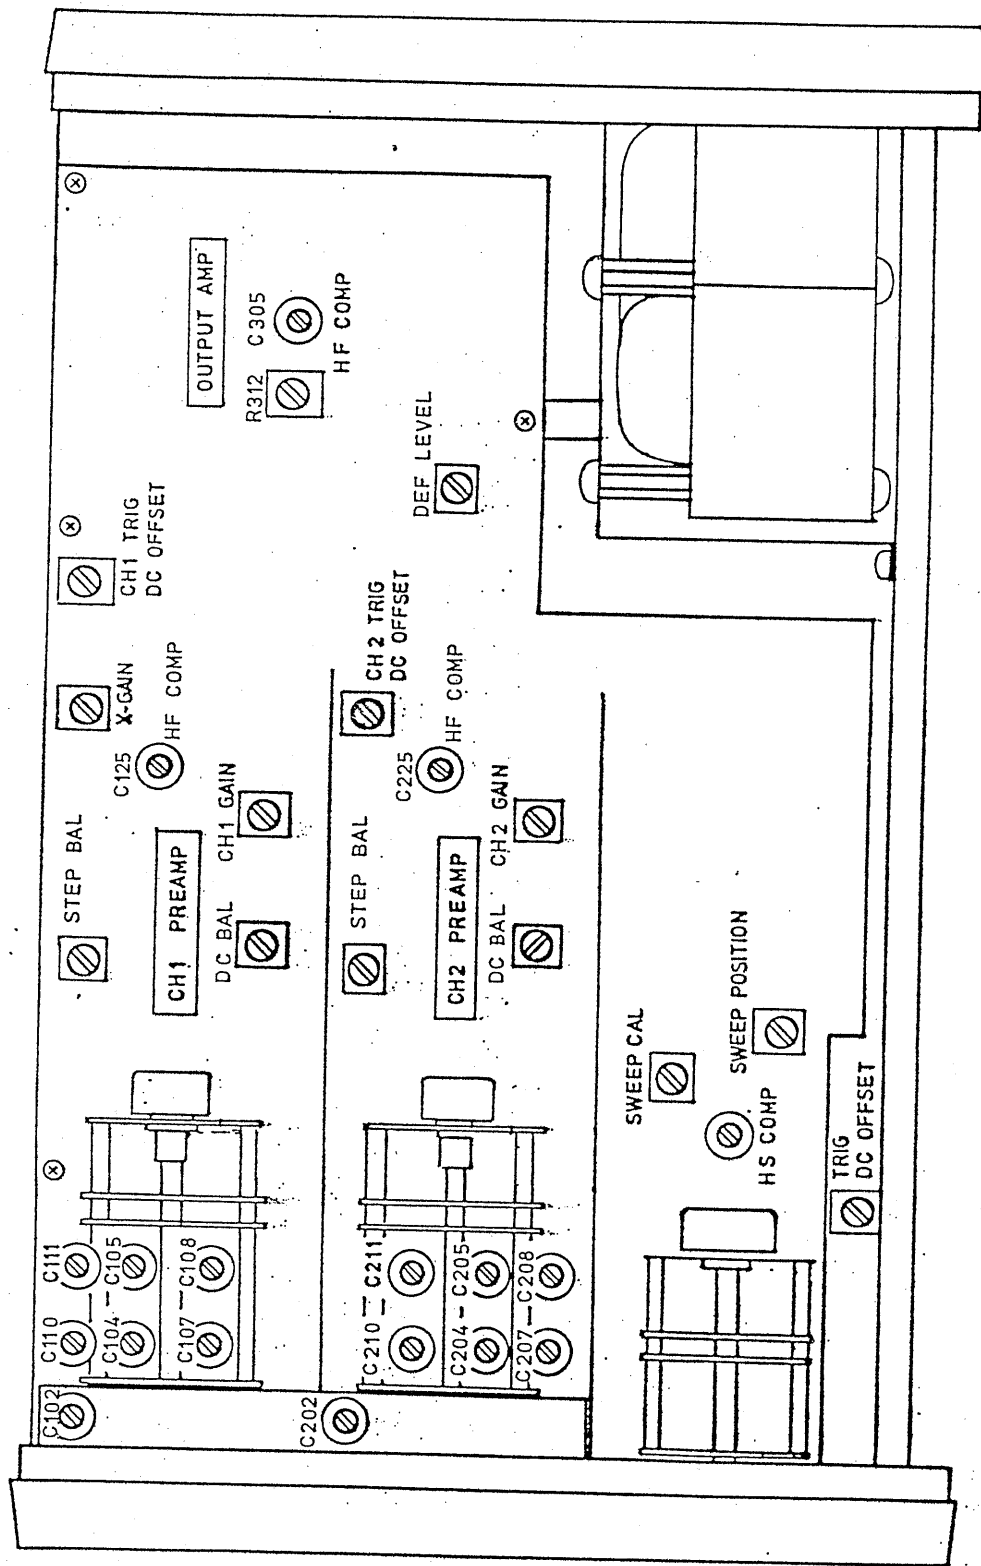

Fig. 24
6.3 Adjustment of Vertical Axes (Refer to Fig.24.)
- (1) Set the GND button in position, and display a horizontal trace line in the CRT screen.
- (2) Adjust the STEP BAL control (Refer to Fig. 24.) so that the shift of the horizontal trace line is made minimum, when the VOLTS/DIV switch is set in the 5mV range from the 20mV range or in the 20mV range from the 5mV range.
- (2) Adjust the DC BAL control (Refer Fig. 24.) so that the shift of the horizontal trace line is made minimum, when the vertical variable knob is turned.
- (1) Set VERT MODE in CH1 (or CH2), and display a horizontal trace line in the CRT screen.
- (2) Adjust the DEF LEVEL control (Refer to Fig. 24.) so that the potential of the pin Y of CRT is in 80V.
- (1) Set the VOLTS/DIV switch in the 5mV range, and adjust the output voltage of the square wave generator so that the amplitude displayed on the CRT screen is 4 DIVs.
- (2) Set the TIME/DIV switch in $0.5\mu s$ range, and adjust the HF COMP. control (Refer to Fig. 24.) so that the top of the square wave is flat. Frequency characteristics of vertical amplifier is adjusted within $0 \sim \pm 3dB$ at DC \sim 10MHz.
- (1) Apply the 1ms interval time marker signal or the 1kHz signal to the vertical input terminal, and set the TIME/DIV switch in the 1mS range. Adjust the amplitude of a signal or the VOLTS/DIV switch so that the waveform of an appropriate amplitude is displayed on the CRT screen.
- (2) Adjust the SWEEP CAL control (Refer to Fig. 24.) so that the repetition period of waveform corresponds with vertical graticule lines.
- (3) Apply the 10 μ s interval time marker signal or the 100kHz signal to the vertical input terminal, and set the TIME/DIV switch in the 10 μ S range. Adjust the HS COMP. control (Refer to Fig.24.) so that repetition period of waveform corresponds with vertical graticule lines. By this adjustment, sweep times of all ranges of the TIME/DIV selector are calibrated, and the function of the 5x MAG is also calibrated by the same adjustment without any other adjustment.
6.5 Adjustment of Horizontal Axis (X axis) (Refer to Fig. 24.)